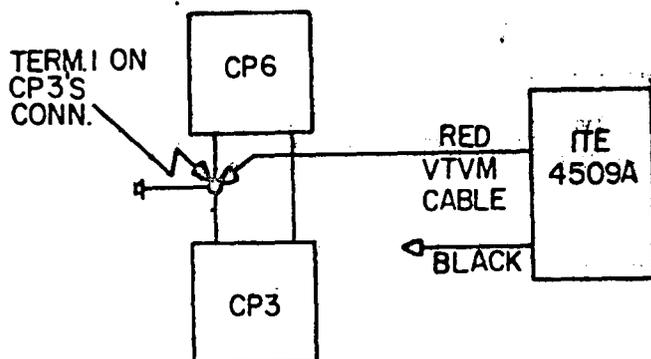

Fig. 7
5.118 Make the test connection shown in Figure 7.